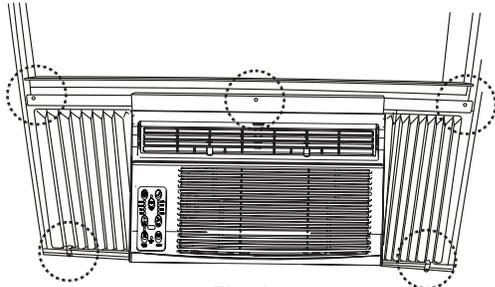

Fig. 8
B. Drive 3/4" (19 mm) or 1/2" (12.7 mm) locking screws through frame holes into window sash (Fig. 8).